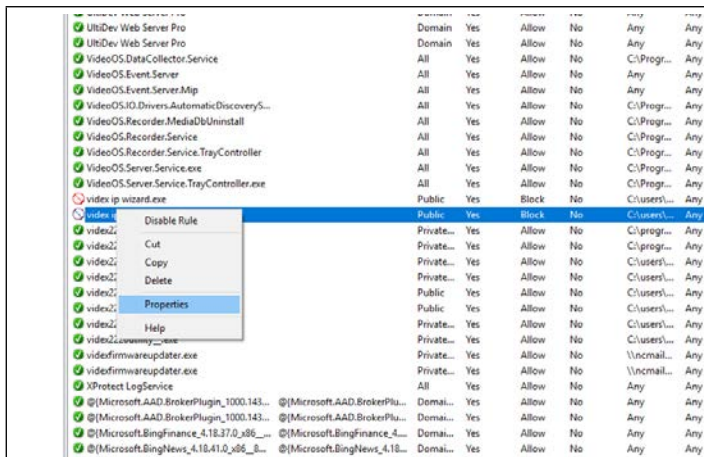

Fig. 59 Edit properties for Vindex IP Wizard
- » Find the rules relating to the VIDEX IP Wizard (**Fig. 59**) and edit the properties.